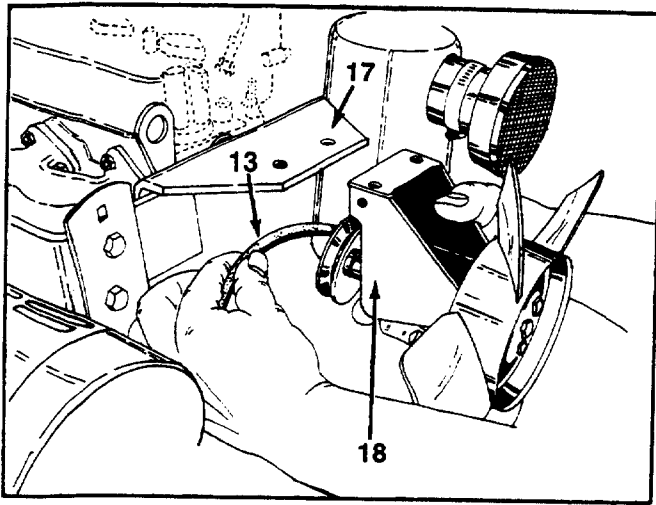

FIGURE 10.
11. Lift the fan drive support out and remove the fan drive belt. See figure 10.